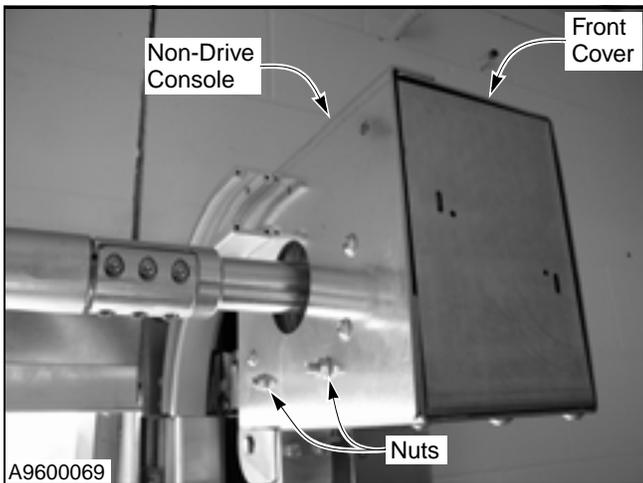

Figure 35
2. Loosen the two nuts on the side of the console. (See Figure 35.)